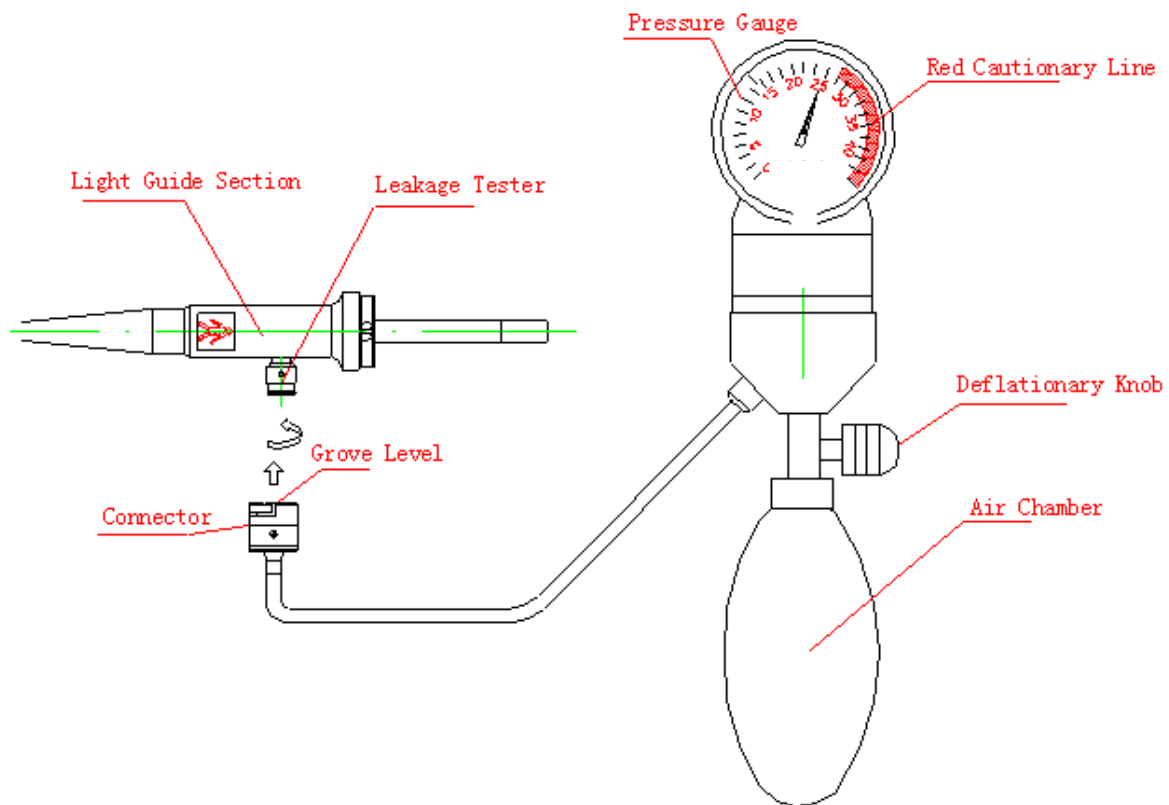

Figure 3.1
(1)Connect the leakage tester (separately purchased part) to the endoscope according to the method shown in Figure 3.1.